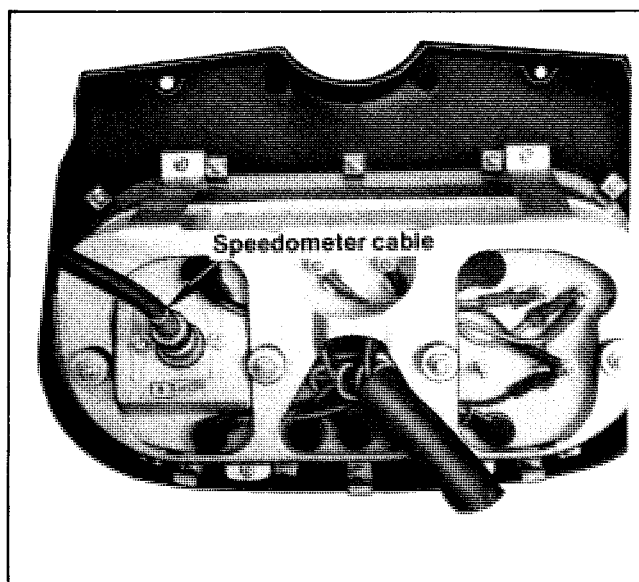

Figure 1. Speedometer Cable Location
2. Disconnect the speedometer cable (see Figure 1). Lift head up and out of way. Do not disconnect any other wiring.